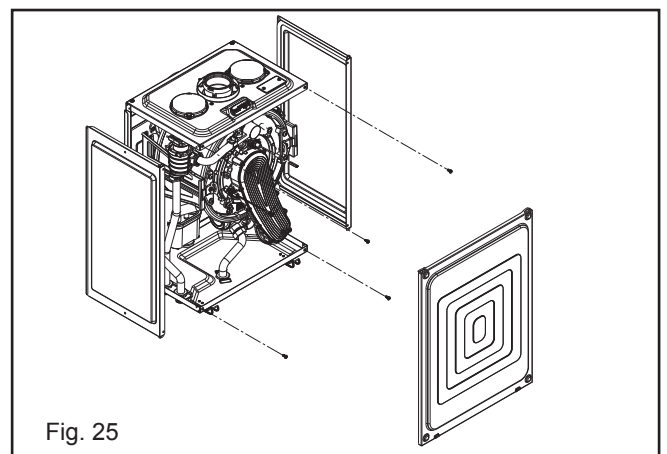

Fig. 25
6.3.1 AIR BOX FRONT COVER REMOVAL (fig. 25)